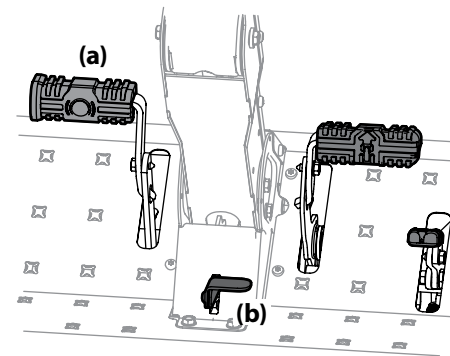

Figure 3-1
3. Engage the parking brake by pressing forward on the brake pedal (a), then press down on the parking break/cruise control lever (b) and then release the brake pedal (a). Refer to Figure 3-1.